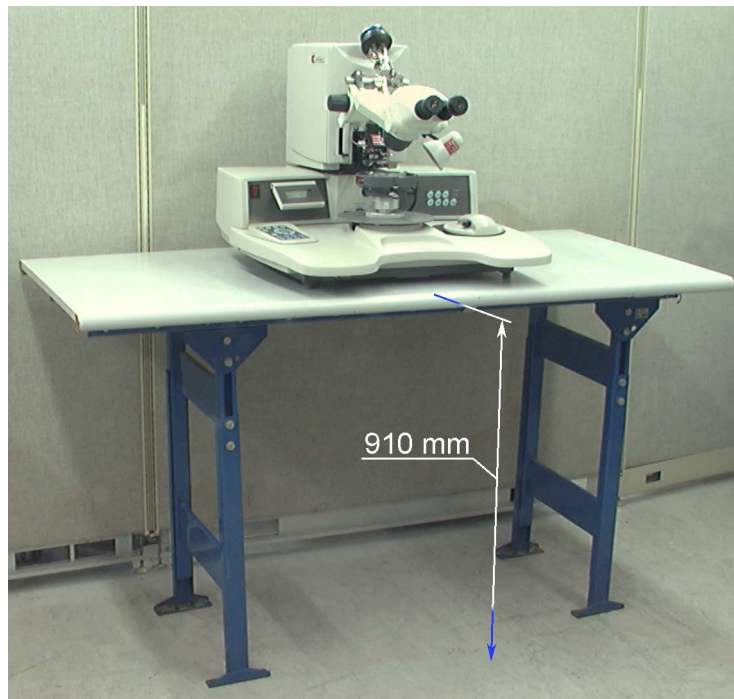

Figure 2-1: Stable Work Table for K&S 4500
- Stable work table, as shown in Figure 2-1.